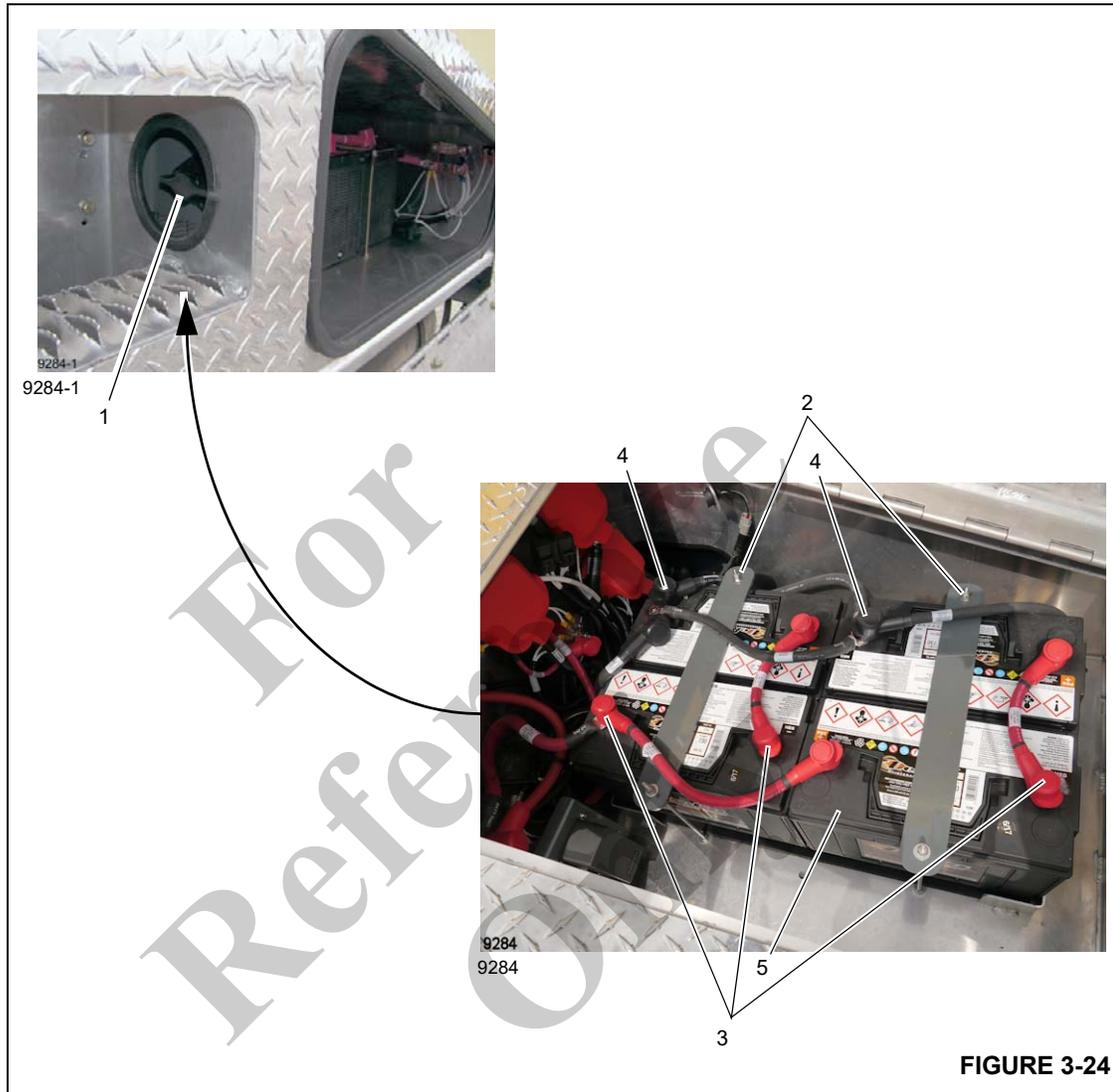

FIGURE 3-24
4. Remove the negative battery cables (Figure 3-24).
2. Turn the battery disconnect switch(1, Figure 3-24) to the OFF position.
4. Remove the negative battery cables (4, Figure 3-24).
5. Remove the positive battery cables (2).
6. Remove the nuts and washers from the bracket hold down rods (2). Remove the hold down brackets.
1. Place the batteries in the battery compartment. Refer to (Figure 3-24).